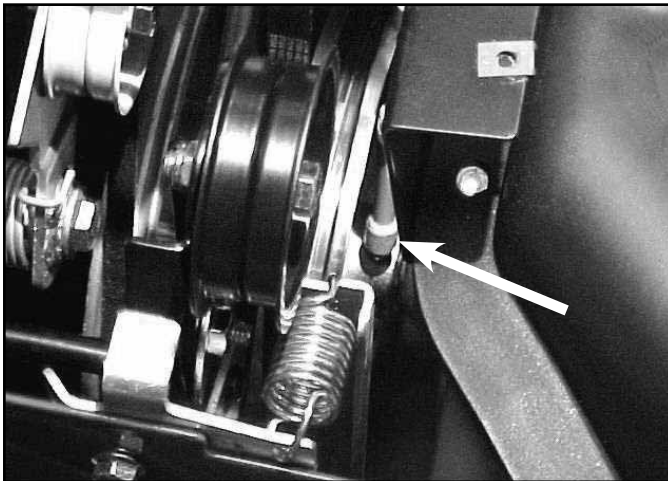

Fig 080
8. Loosen the 2 set screws on the auger pulley. A long extension and a ratchet will be necessary (Fig. 080).